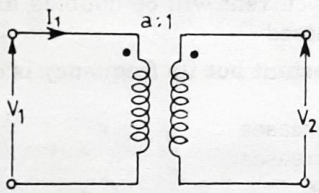

Fig. C.45.
56. In an ideal transformer shown in Fig. C.45,